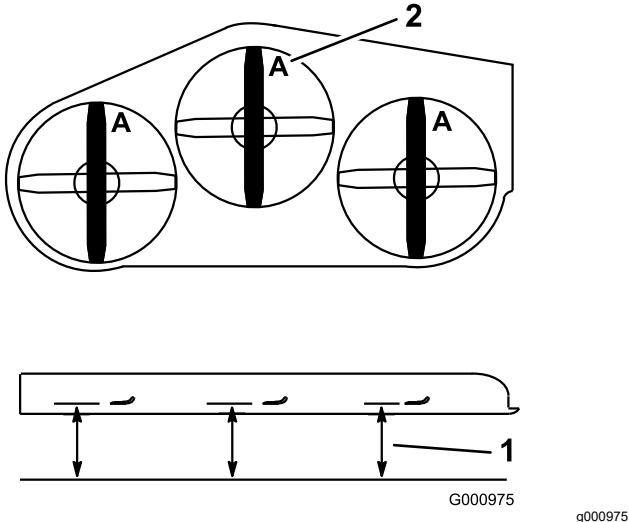

Figure 73
2. Measure from a level surface to the cutting edge, position **A**, of the blades (Figure 73).